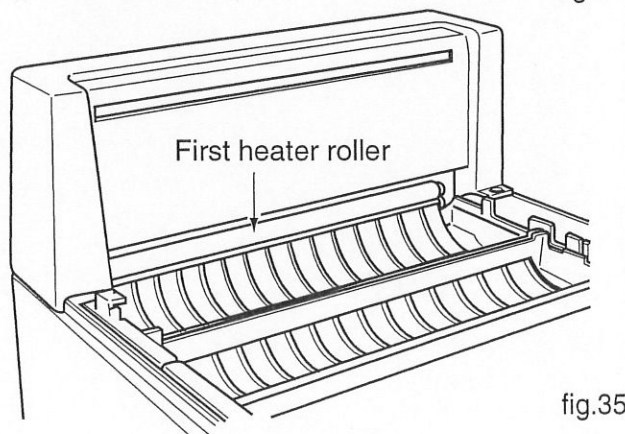

fig.35
- ④ Scrub each rack and its rollers, with a sponge (or clean cloth) and rinse the grime off with warm water (under 40°C). After rinsing, place the racks at an angle to drain the excess water off.
- ⑤ Wipe the first heater roller with a damp sponge (or cloth) to remove the dirt. Use long smooth wiping strokes, **NEVER SCRUB IT**. (fig.35)